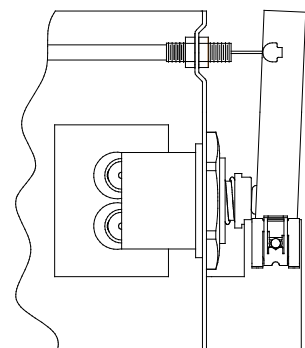

FIG. 6
3. To assemble the operating cable to the sleeve inside the fountain arm you will need to remove cap screw (Item 18, See Fig. 6) and then remove Push Button and Pin (Items 12 & 13, See Fig. 6). Remove screw (Item 20, See Fig. 6) and you will now be able to remove the Sleeve (Item 7, See Fig. 6) to get access to the adjustment nuts for additional adjustability. (Fountain should be mounted to exterior wall). The adjustment nuts should be at the base of the threaded area on the operating cable. See Fig. 6. Create a loop in the cable and thread the free end of the cable through the wall into the freeze resistant box.
5. Remove cable free play by adjusting the jam nuts on the ends of the operating cable. See Figure. 6.